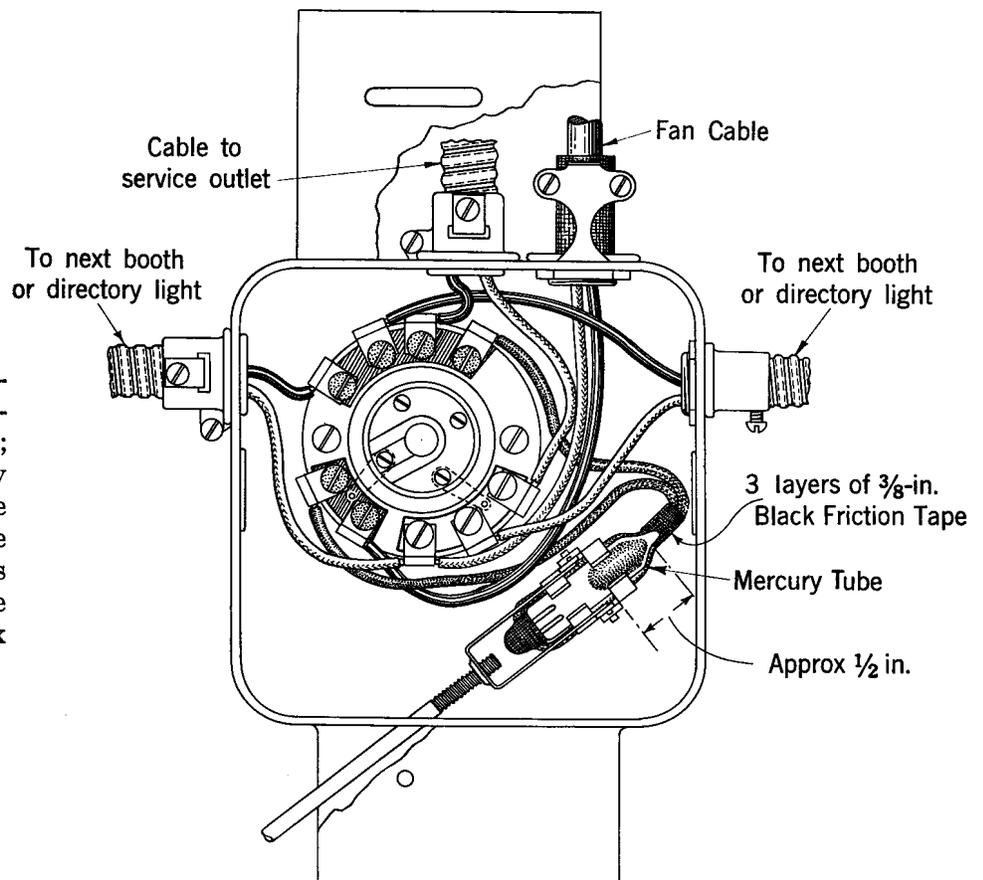

Fig. 8 — 3A Light Fixture Viewed from Within the Booth
3.01 At the 3-type light fixture, make cable connections as shown in Fig. 8; connect each cable shown only when required. When 3-wire cable P-370288 is used, the ground conductor (green) is automatically grounded to the fixture through its box connection.
- Make connections to the booth lamp receptacle as shown in Fig. 8 or 9.
4. Remove cord or wire, and fasten cable and connector at light fixture as shown in Fig. 8.